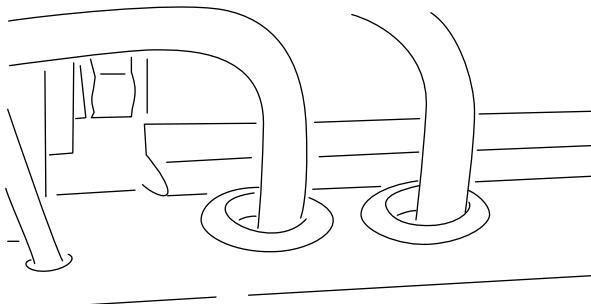

Figure 80
18. Disconnect the pressure and return quick coupler hoses from the cab (Figure 80). Plug the couplers into each other to keep clean. Install the cap and dust covers onto the quick couplers on the machine. Make sure all connectors are clean before making connections.